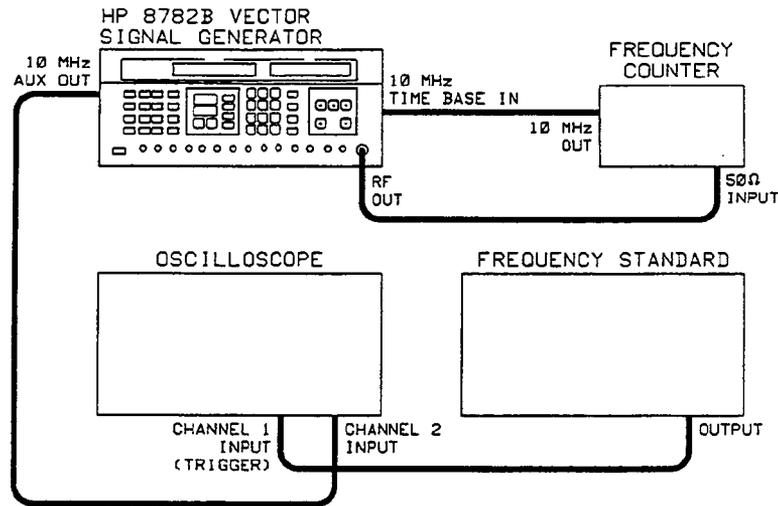

Figure 5-1. Frequency Test Setup
1. Connect the equipment as show in Figure 5-1. The frequency counter 10 MHz reference output is connected in place of the generator's 10 MHz internal reference. Set the generator's rear panel 10 MHz TIME BASE INT/EXT switch to EXT.